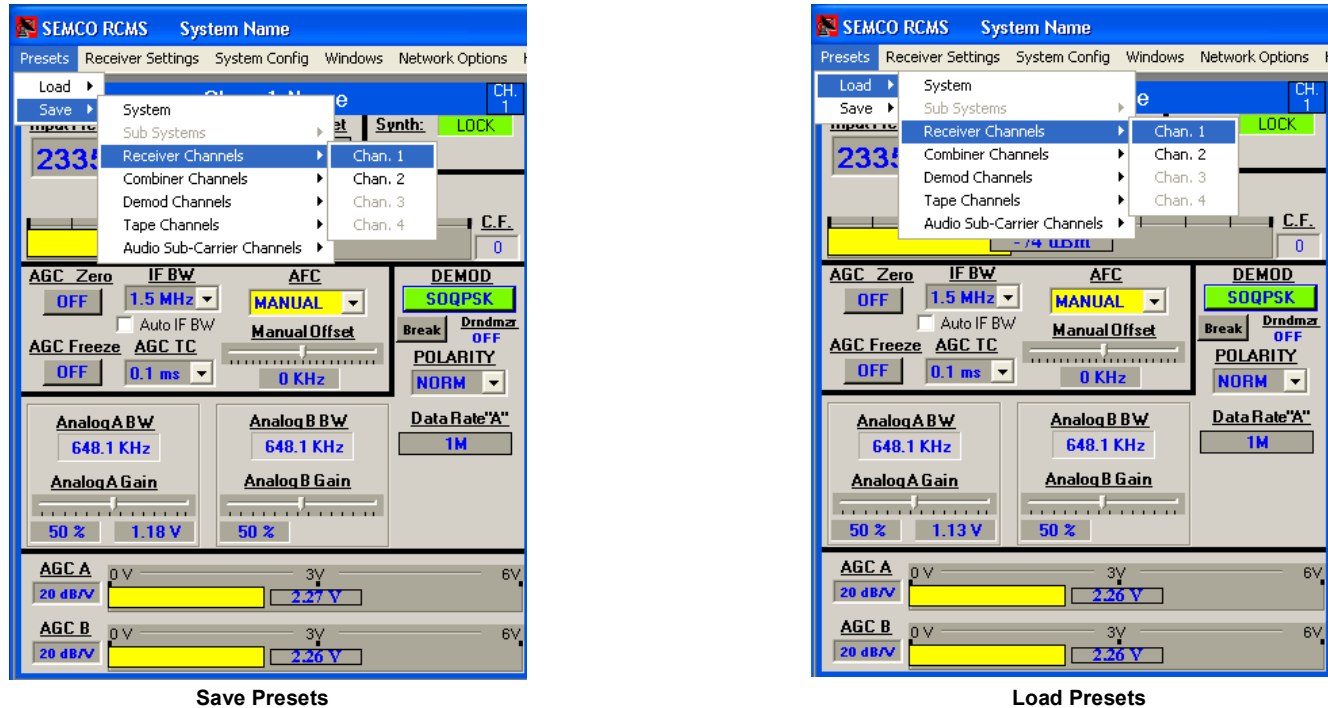
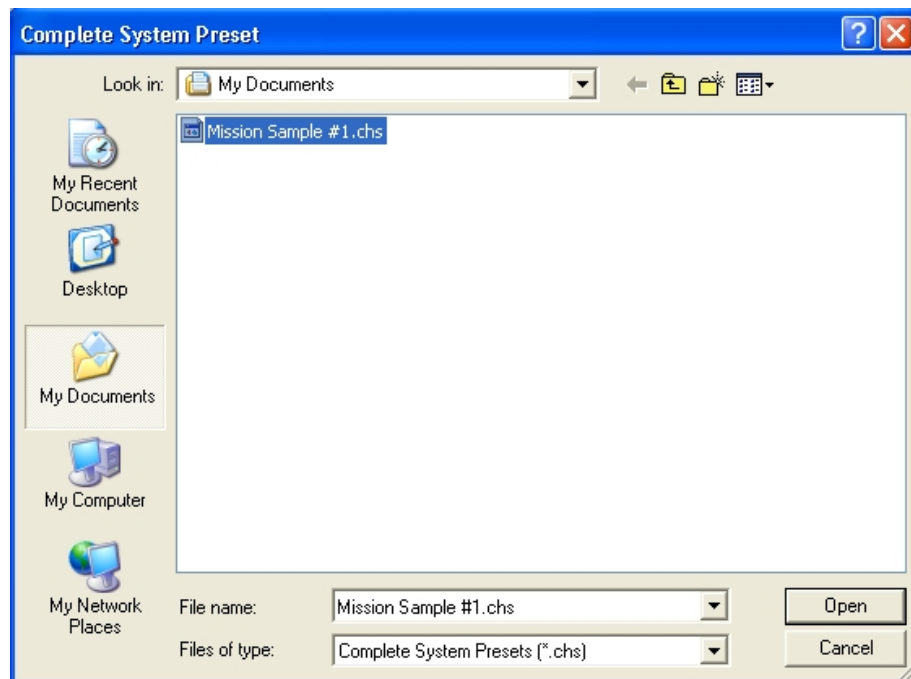
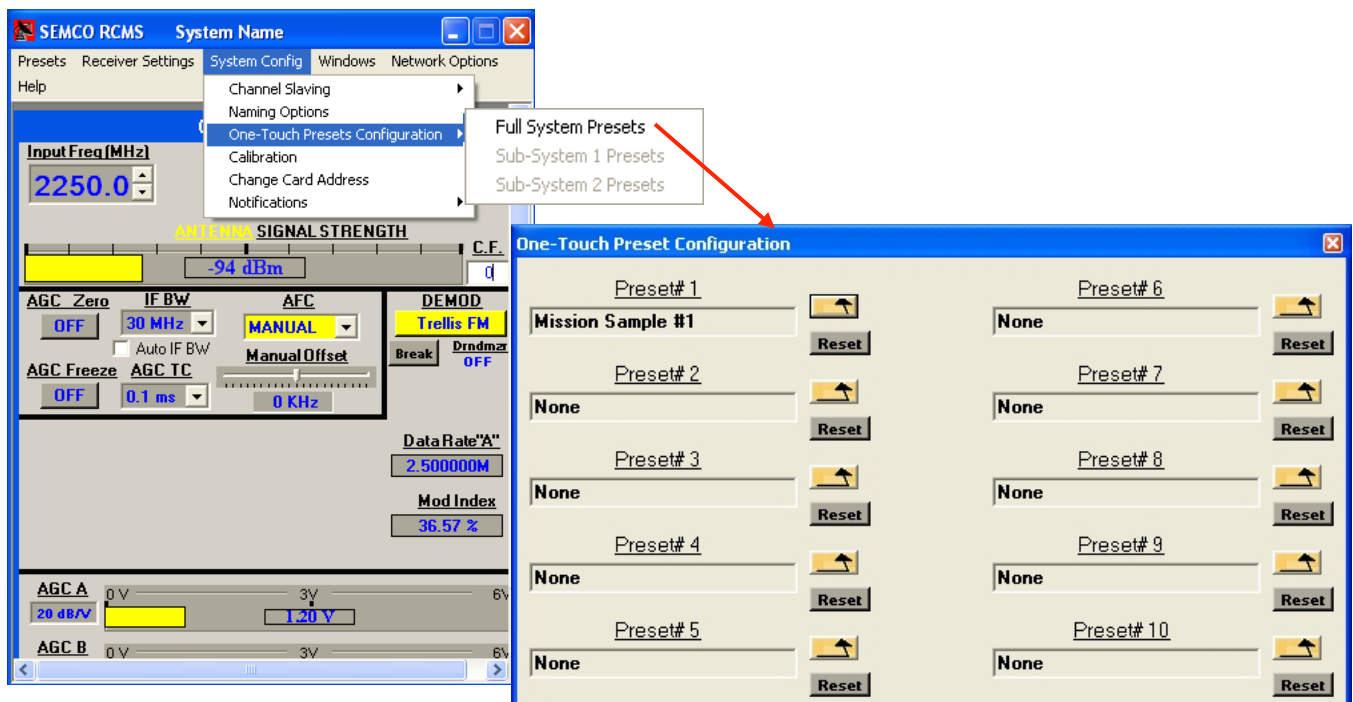
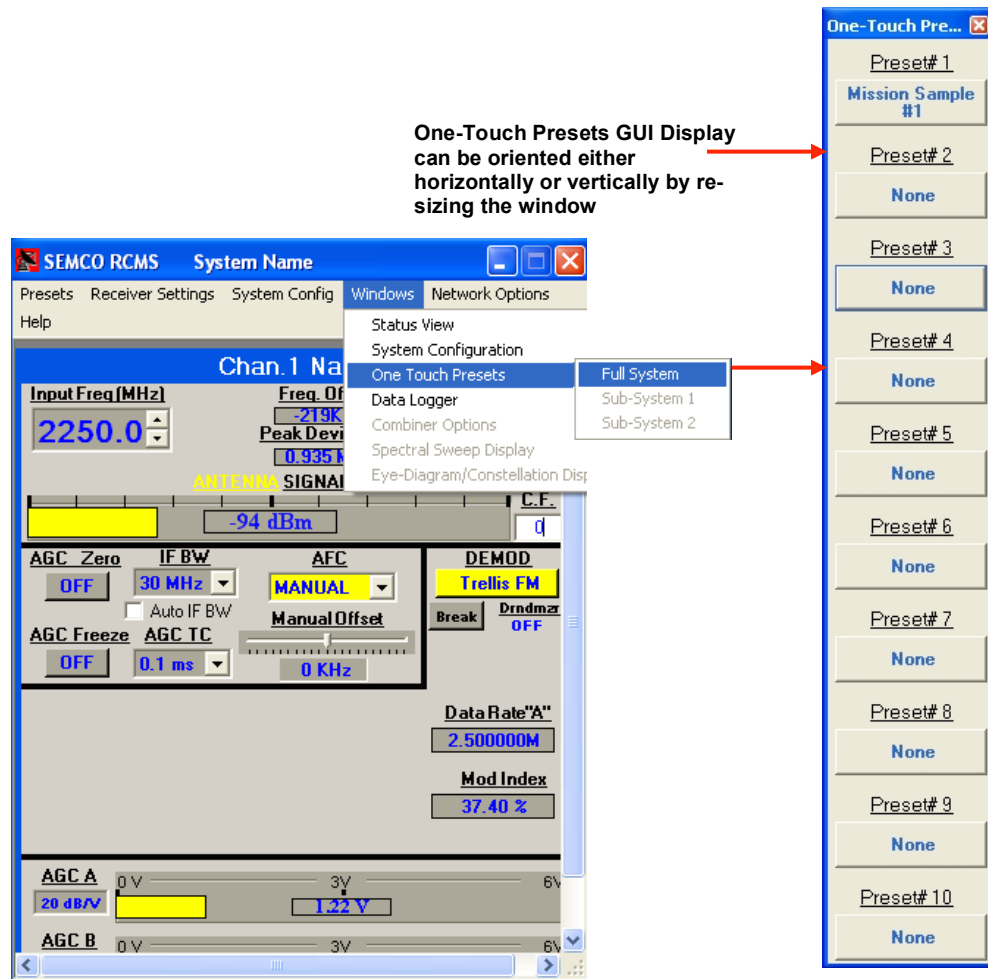

Figure 6-41
Figure 6-43
Figure 6-44
Figure 6-45
Figure 6-41 depicts the pull-down menu that is available when “Presets” is selected. The Receiver Channel presets are applicable to the Telemetry Receiver Card Set. All other preset selections are applicable to SEMCO rack-mount receiver systems. The panel on the left depicts the “Save Presets” selection. The panel on the right illustrates the “Load Presets” selection.
Referring to Figure 6-41, clicking on “Presets”, “Save” and “Receiver Channels” saves and names receiver setups as follows:
Referring again to Figure 6-41, clicking on “**Presets**” and “**Load**” provides the ability to load receiver presets. Clicking on the desired preset takes the user to the “Desktop” directory (Figure 6-43). The user then selects and “Opens” the preset desired (Figure 6-43 example is “Mission Sample #1.chs”) and all settings saved in the selected file are enabled on the system.
The “One Touch Mission Presets” feature provides for displaying and enabling “Saved” Presets on the RCMS display with one click of the mouse. The user clicks on “**System Config**” as shown in Figure 6-44, and then uses the “**One Touch Preset Configuration**” to bring desired Mission Presets to the GUI Control Panel as follows:
Step 1 – Click on  to access the “Load Presets” Directory (Figure 6-44).
Step 2 – Select and open the desired Mission Presets to be accessible on the GUI Control Panel (see Figure 6-43). In the Figure 6-44 example, “**Mission Sample #1**” has been loaded into “**Preset #1**”. Clicking on “**Reset**” removes the loaded preset from the One-Touch Preset Configuration Directory.
Step 3 - Once all of the desired presets are loaded into the “**One-Touch Presets Configuration**” Directory (Figure 6-44), select “**Windows**” and then “**One Touch Presets**” as shown in Figure 6-45.
Figure 6-45 depicts the One-Touch Presets Windows Display. This window is displayed on the front panel GUI. The user can then enable any preset by clicking on the preset desired. “**Mission Sample #1**” is depicted in the Figure 6-45 example.